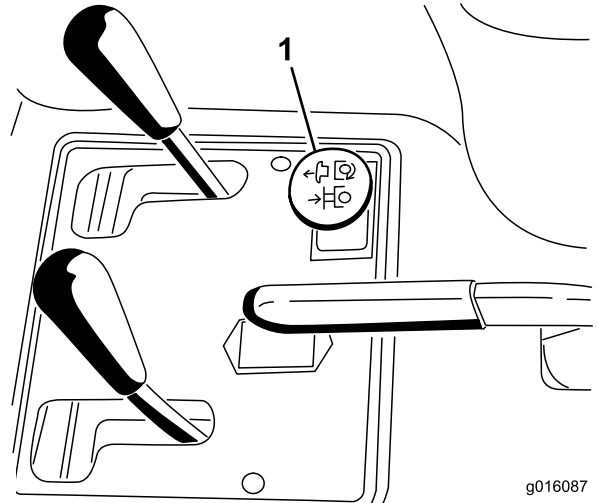

Figure 12
3. Engage the blade by pulling up on the Remote Hydraulics control knob (Figure 12).
- Disengage the blade by pushing down on the Remote Hydraulics control knob (Figure 12).